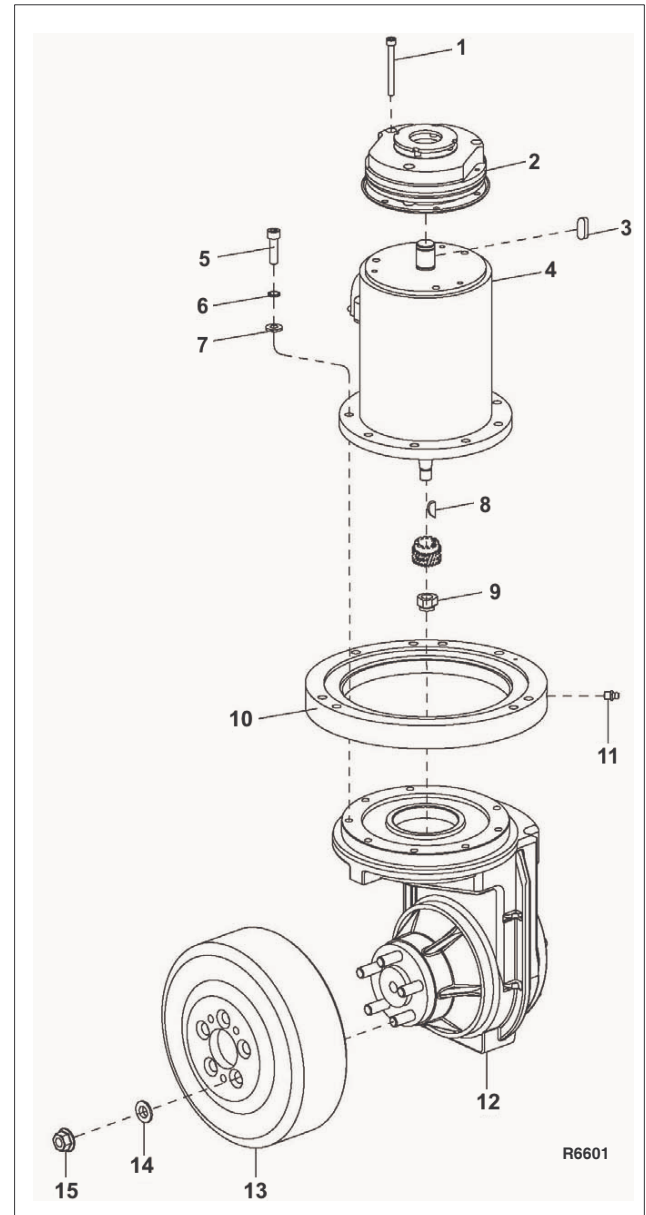

Figure 7-1 Transmission, Motor, Brake Assembly
3. Loosen but do not remove the five nuts (15, Figure 7-1).
5. Remove the five nuts (15) five washers (14) and drive wheel (13) from the transmission (12).
3. Remove the brake (2, Figure 7-1) as described in paragraph 6-1.3.